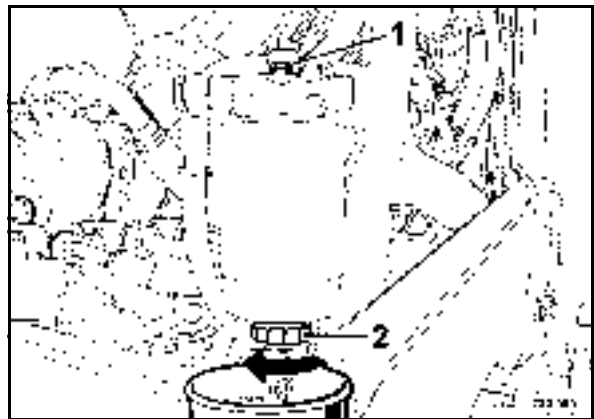

Fig. 95
- Slacken bleeding screw 1 (Fig. 95) for a few turns.
- Slacken drain plug (2) for a few turns and catch running out fuel / water.